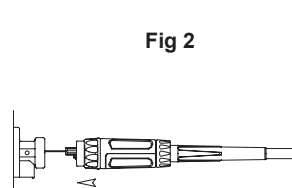

Fig 2
3. Carefully slide the electrode wire into the torch liner and slowly locate the torch gun plug body into the feed unit central connector and tighten the gun plug nut as Figure 2